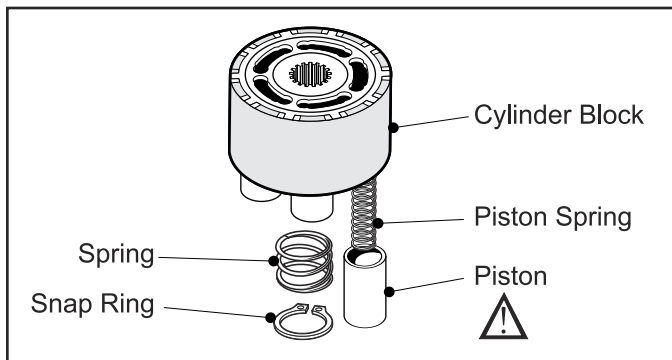

Fig. 31, Cylinder Block Removal
12. Inspect each component of the Pump Cylinder Block Assembly for burrs, scoring, pitting, discoloration, distortion, and wear. (Fig. 31)